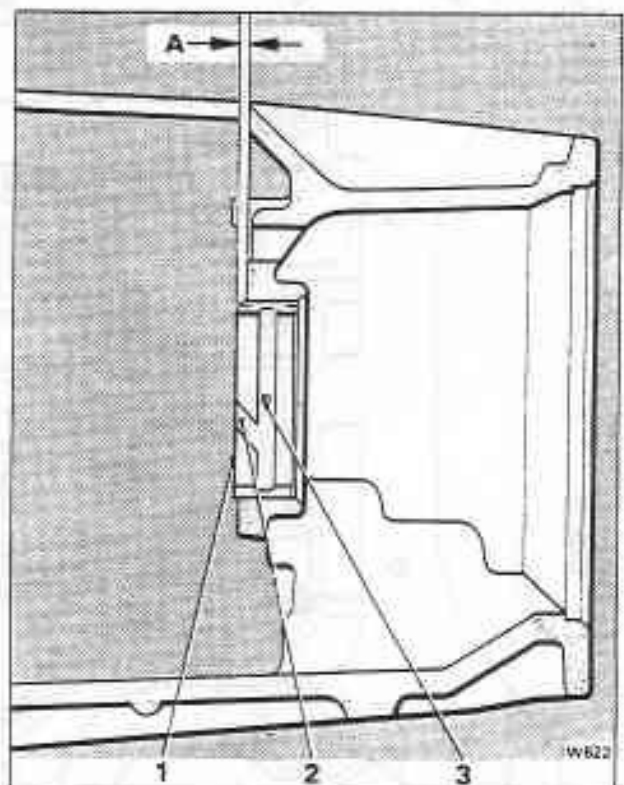

Fig. T21-2 Fitting a new case bush
If the case bushing is found to be worn or scored, fit new bushing (see fig. T21-2).
3. Assemble the tools. Then, using the adapter, press the bush into the case until it is between 1,02 mm and 1,40 mm (0.040 in and 0.055 in) **above** the selective thrust washer face as shown in figure T21-2.